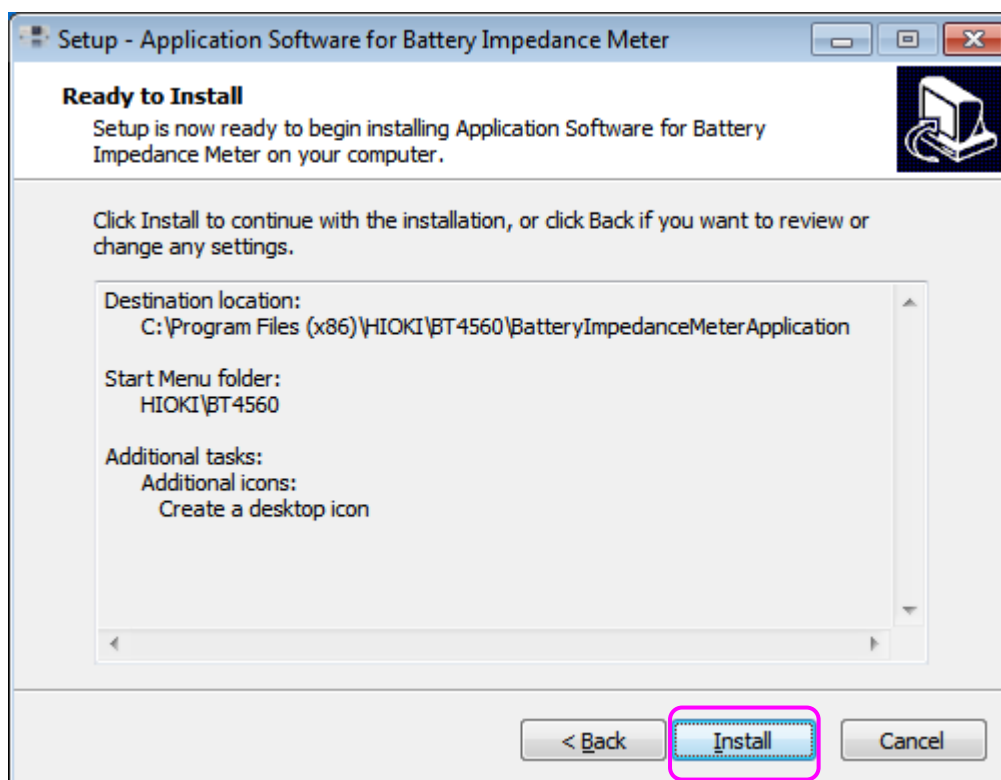

Fig 2-8
Step6 : Click [Install]. (Fig 2-8)